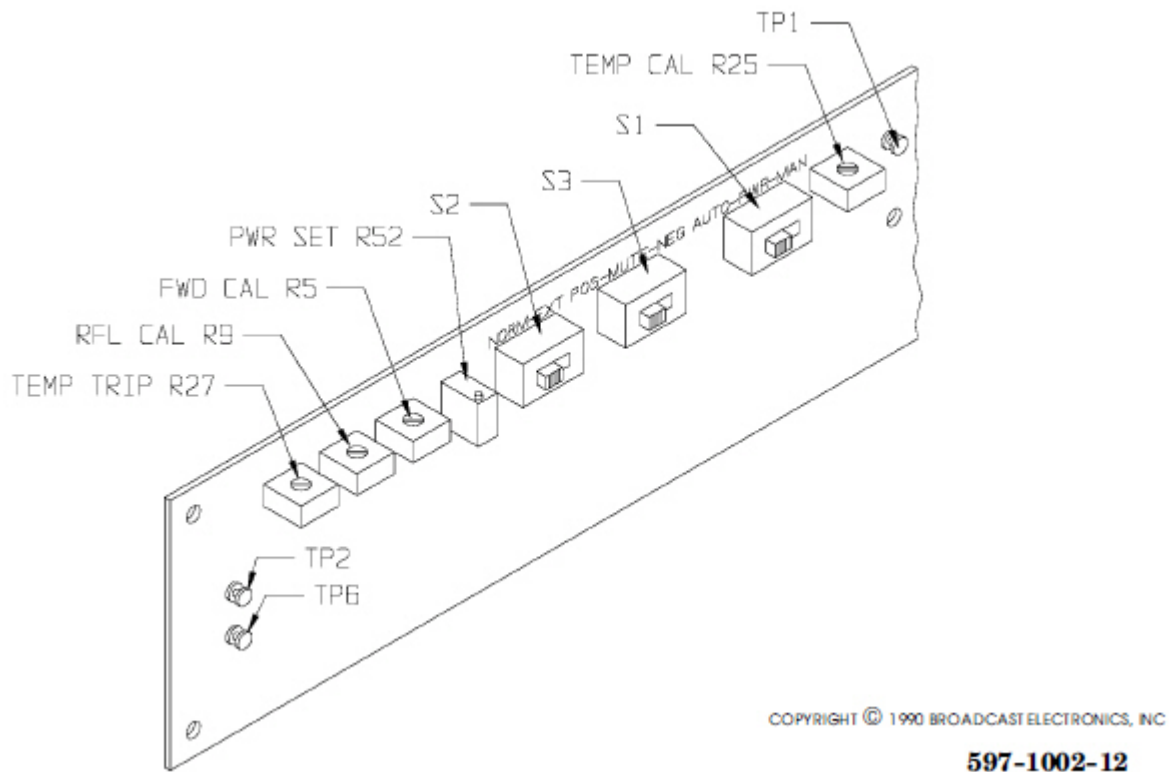

Figure 6-3. POWER SUPPLY/CONTROL CIRCUIT BOARD CONTROLS
- D. Remove the top-cover. Refer to Figure 6-3 and operate AUTO-PWR-MAN switch S1 to the MAN position.
- F. Refer to Figure 6-3 and adjust PWR SET control R52 for a 100 watt output power indication on the external meter.
- G. Refer to Figure 6-3 and adjust FWD CAL control R5 for 100 watts as indicated on the front-panel FWD meter.
- J. Depress the RFL meter function switch. Refer to Figure 6-3 and adjust RFL CAL control R9 until the meter indicates 11% of the value recorded in step I.
M. Refer to Figure 6-3, adjust PWR SET control R52 until the meter indicates the value recorded in step A.
E. Refer to Figure 6-3 and connect a voltmeter between TP1 and TP6 (ground).
G. Refer to Figure 6-3, adjust TEMP CAL (R25) until the voltmeter indicates the value recorded in step D.
B. Remove the top-cover. Refer to Figure 6-3 and connect a voltmeter between TP2 and TP6 (ground).
D. Refer to Figure 6-3 and adjust R27 until the voltmeter indicates +3.65V dc.